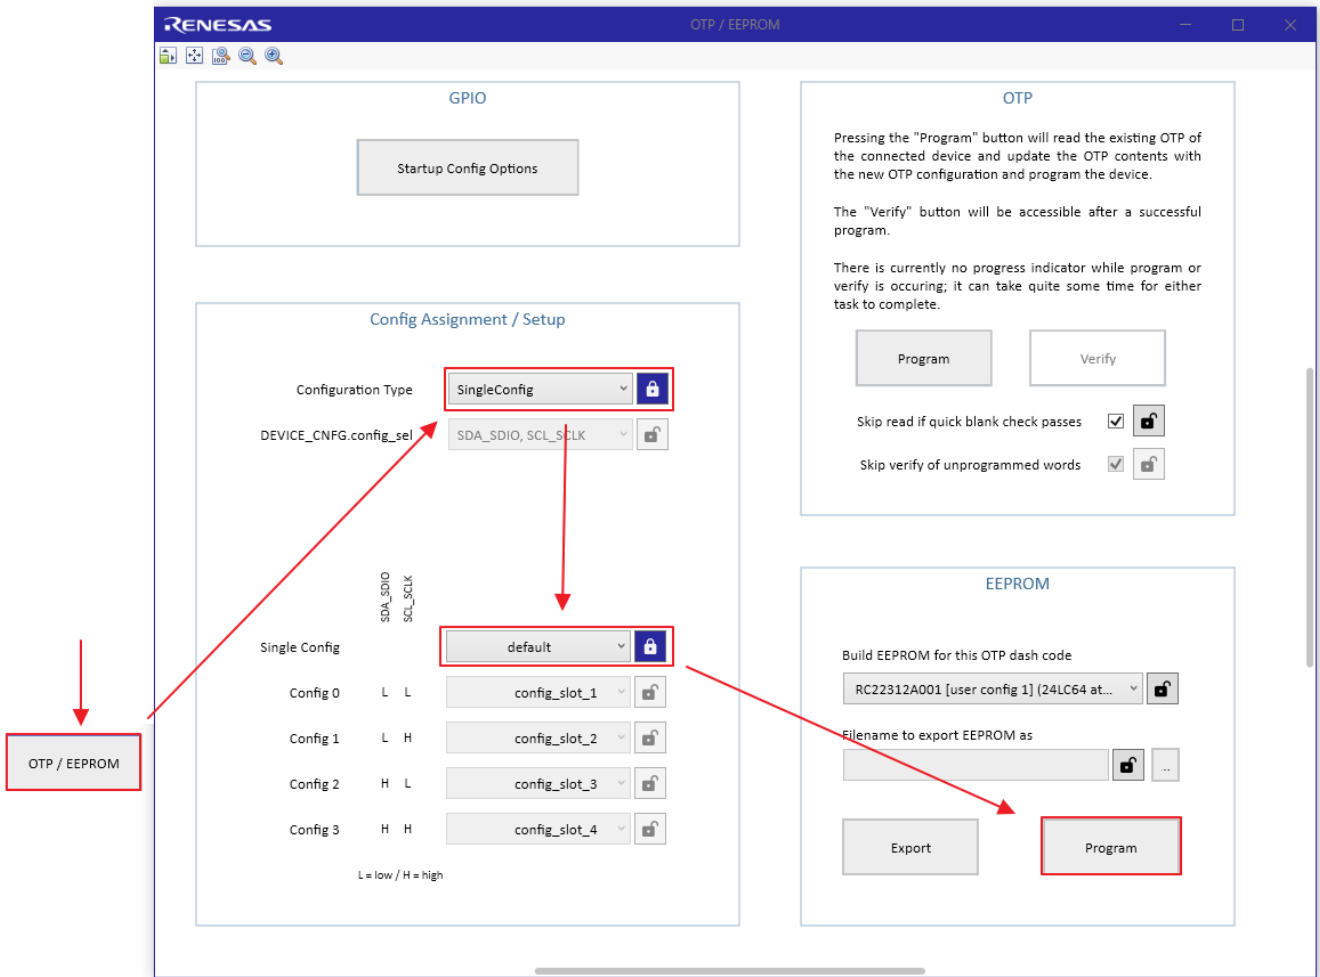

Figure 12. Programming a Connected EEPROM Device
3. Use the **Configuration Type** dropdown menu to select **SingleConfig** (see Figure 12).